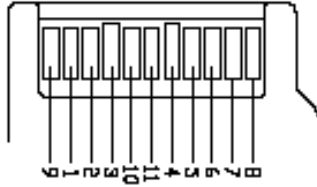

Fig 4 – miniSD Card Pin Designation
- Fig 4 - miniSD Card Pin Designation**